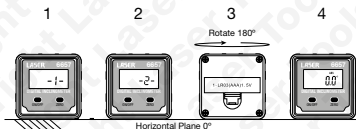

Figure 4
1. Place the 6657 Digital Inclinometer on a flat and smooth surface. Press button **B** to switch on, then press button **B** and **C** at the same time to enter the **Calibration Mode**: **-1-** will be displayed (refer to **Figure 4**).